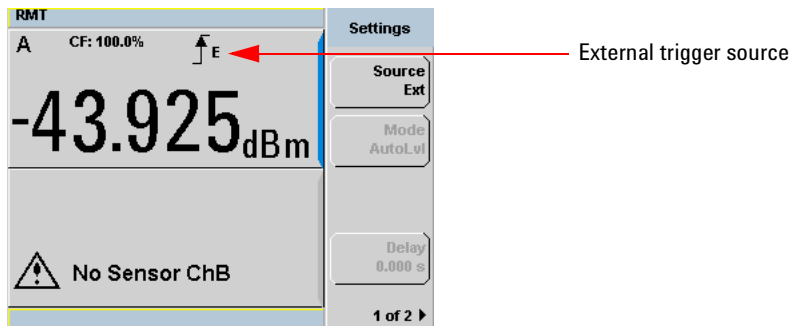
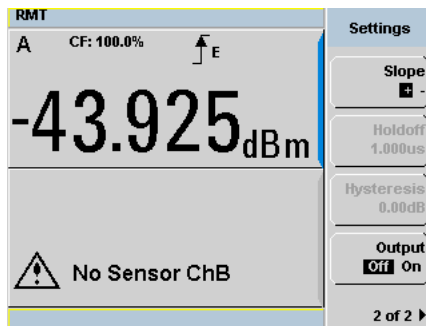

Figure 2-18 Trigger setting menu 1 of 2
Figure 2-19 Trigger setting menu 2 of 2
- 7 Press **Settings** to configure the remaining trigger parameters. The trigger **Settings** menu consists of two pages. Figure 2-18 shows page 1 and Figure 2-19 shows page 2.